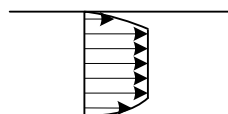

Figure 2-3.2: Plug flow of a Binghamian fluid.
- b) Plug flow will occur at any laminar flow since shear stress is low in the middle of the pipe. The Bingham model predicts an $\text{YP} = 9.1 \text{ Pa}$. This is a theoretical value, but given time at steady-state laminar flow, gel strength will develop, in fact approaching the level of the YP. Shear stresses below this level will lead to gel (flocculation) as shown in Figure 2-3.2.